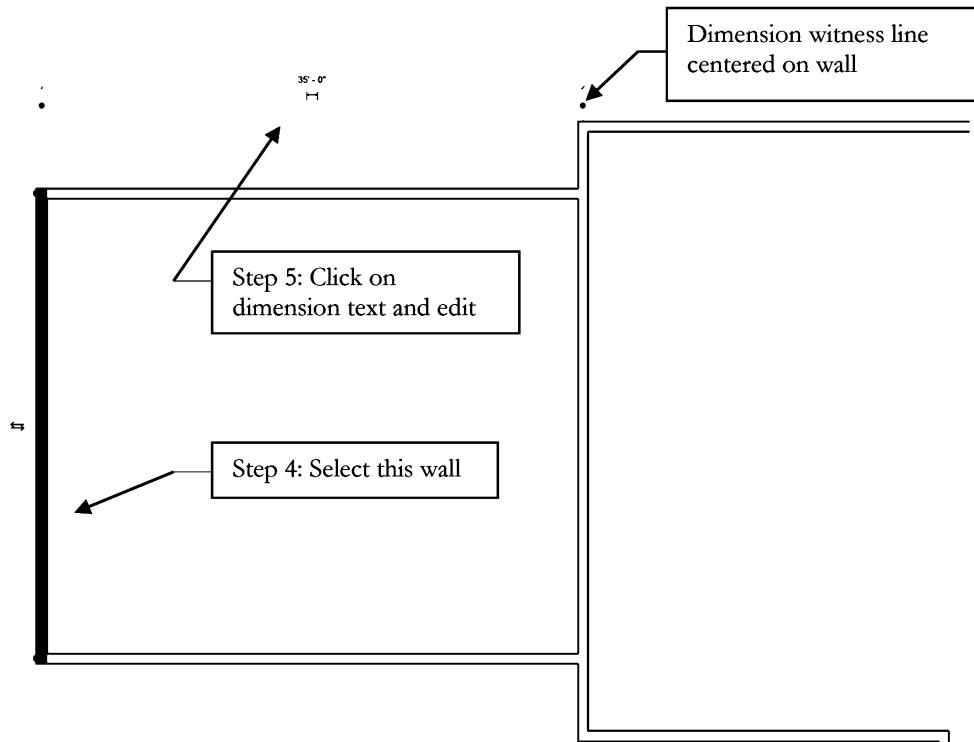

FIGURE 5-2.3 Editing wall dimensions
- Click the **Modify** button (not the tab) and then select the far left wall (Figure 5-2.3).
- Select the temporary dimensions text (35'-0") and then type **34 8** (Figure 5-2.3).